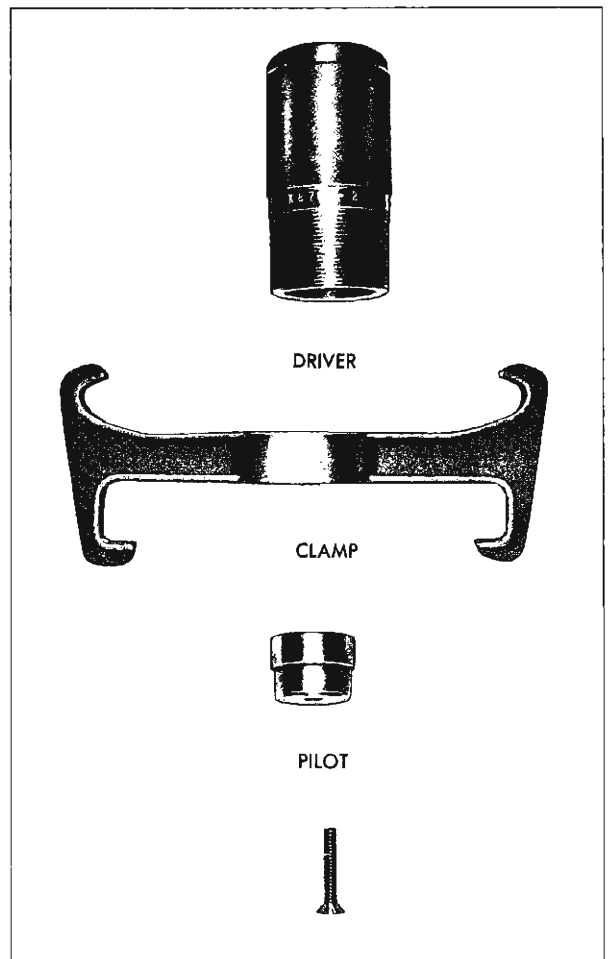

Fig. 87—Balancer Installer Tool
1. Thread the driver section of Tool into clamp section from shallow fingers to deep fingers (fig. 87).